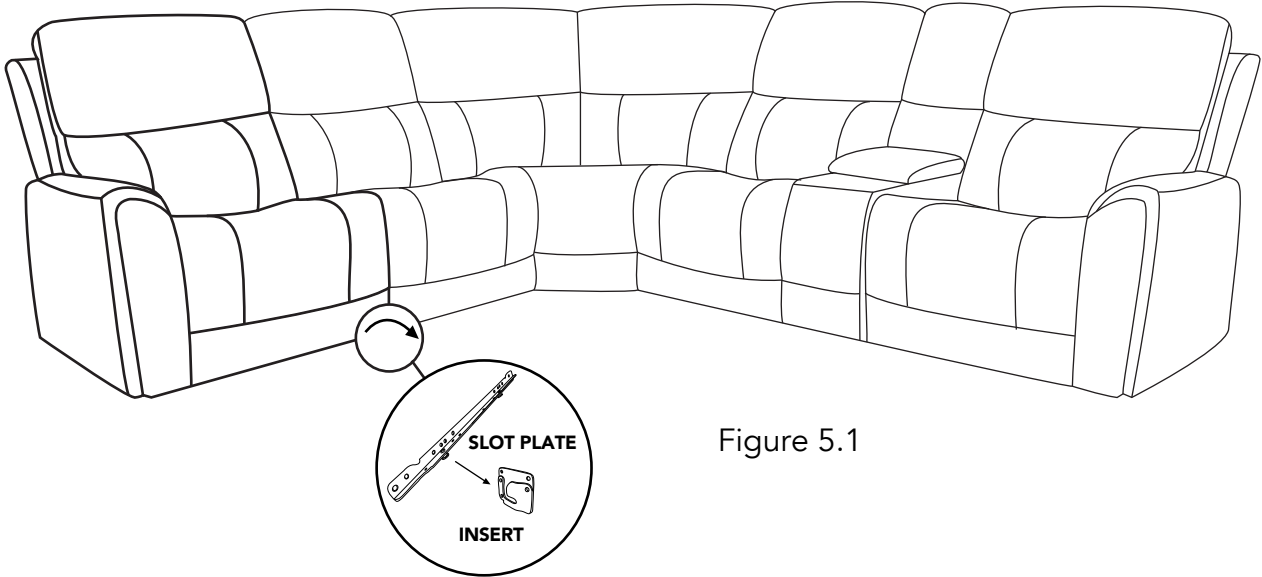

Figure 5.1
- 5** You can connect two or more recliners by connecting each position with male and female buckle as Figure 5.1 illustrated.
(See Figure 5.1)